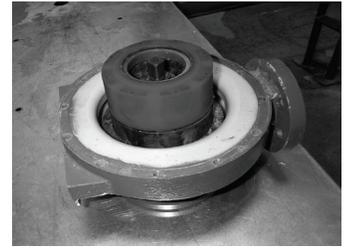

figure 13
8. Remove the impeller assembly and the shaft from the casing. *See figure 13.*